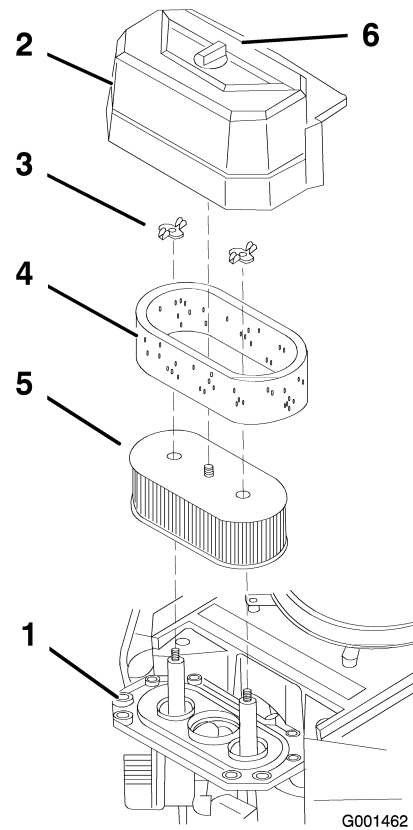

Figure 32
- Clean around the air cleaner to prevent dirt from getting into the engine and causing damage (Figure 32).
- Unscrew the cover knob and remove the air cleaner cover (Figure 32).
- Remove the 2 wing nuts and remove the air cleaner assembly (Figure 32).
- Carefully pull the foam element off the paper element (Figure 32).
1. Do not clean the paper filter. Replace it after 200 operating hours (Figure 32).
1. Carefully slide the foam element onto the paper air cleaner element (Figure 32).
2. Place the air cleaner assembly onto the air cleaner base and secure it with the 2 wing nuts (Figure 32).
3. Place the air cleaner cover into position and tighten the cover knob (Figure 32).